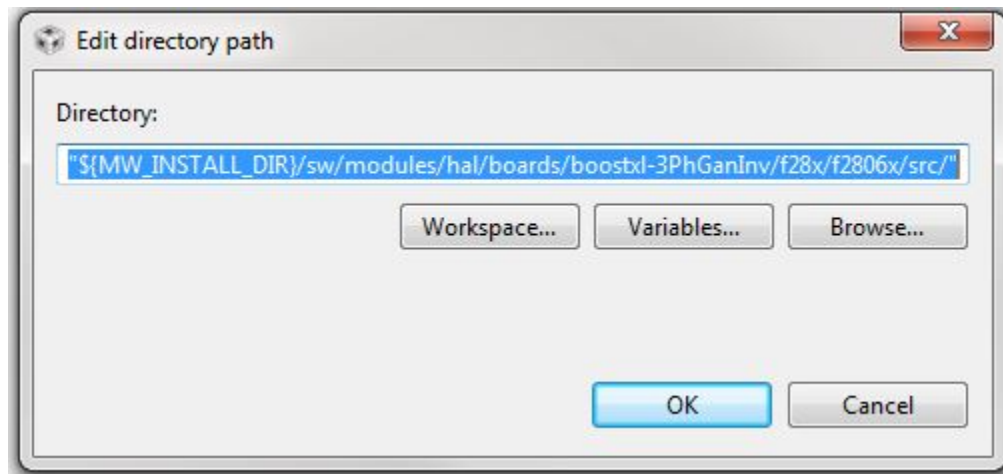

Figure 11. Dialog Window for Step 6b
- b. Select the path highlighted `$(MW_INSTALL_DIR)` and change this to `$(MW_INSTALL_DIR)/sw/modules/hal/boards/boostxl-3PhGaNInv/f28x/f2806x/src/` as Figure 11 shows: